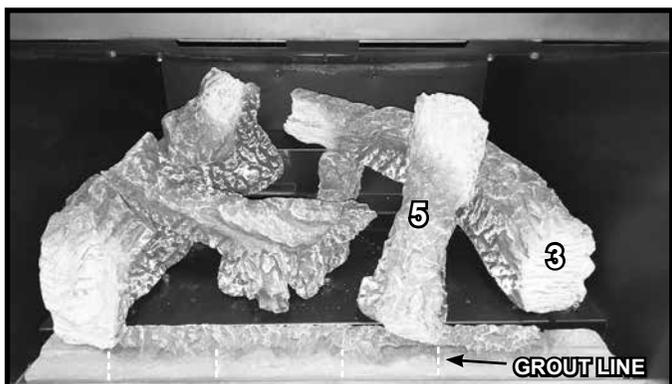

Figure 7 Log #5 Installed
**LOG #5:** Place the non-bark end of log 5 on the flat spot of log 3. The front right corner on the other end of log 5 will sit at the intersection of the grout lines on the base refractory. See Figure 7.